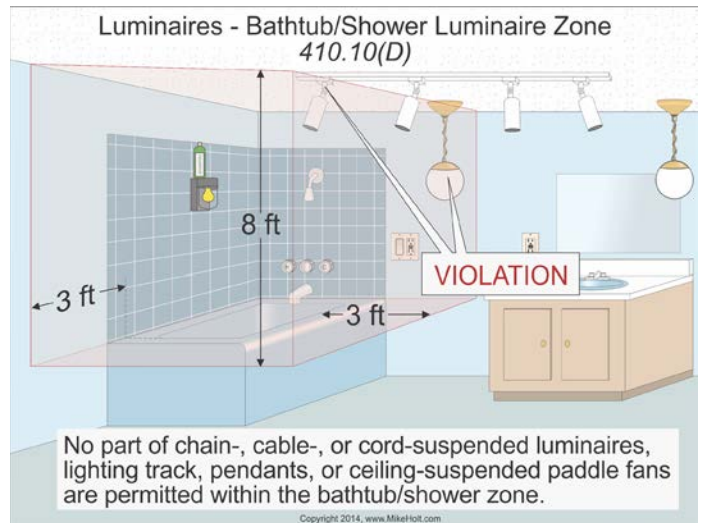

Figure 680-66
- A hydromassage bathtub is treated like a regular bathtub. For example, a 5-foot clearance isn't required for switches or receptacles, and the fixtures must be installed in accordance with 410.10(D). Figure 680-66